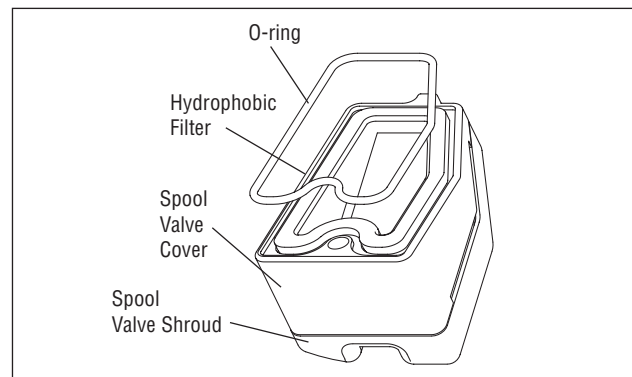

Figure 20: Spool Valve Cover Assembly
2. Remove the O-ring from around the hydrophobic filter element and set aside (Figure 20).
4. Install O-ring into base of chamber cover vent piece as shown in Figure 20.